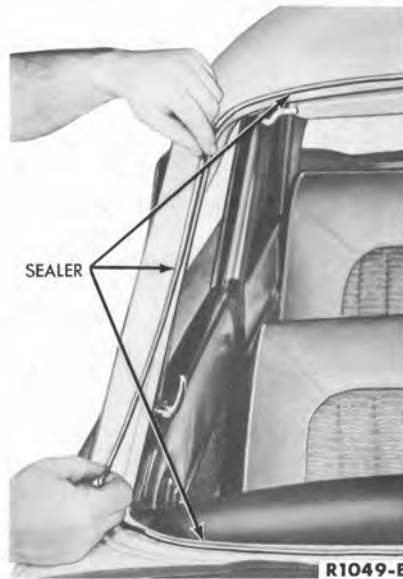

FIG. 23—Sealer Application
10. Apply a bead of sealer completely around the windshield opening flange. (Fig. 23).